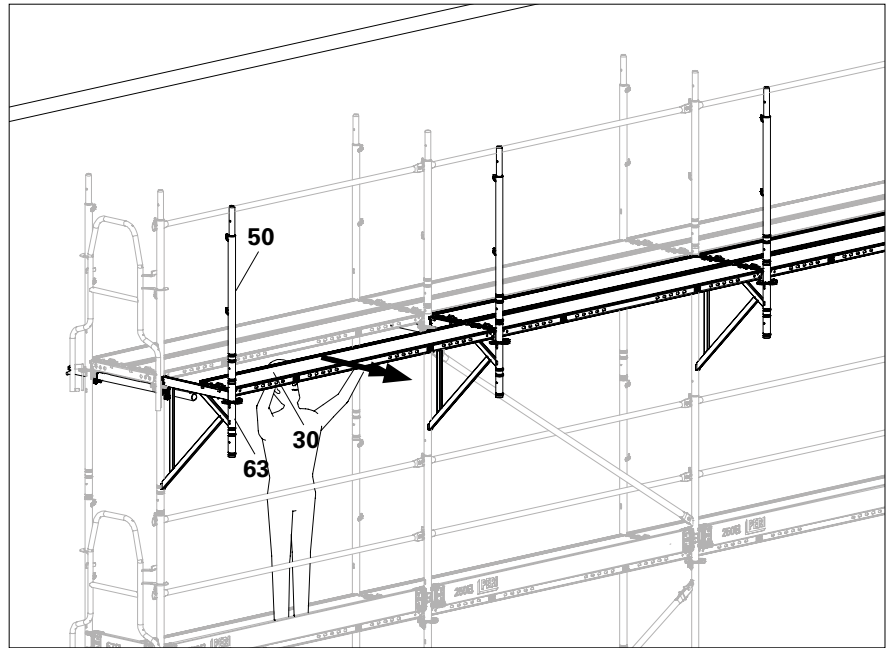

Fig. D1.13
1. Fit Console Bracket ECM (63) with Guardrail Post EVP (50). Secure the wedges. See "A6 System components: Console brackets" on page 40 ff.
2. Fit the Outer Steel Decks EDS (30) and push outwards.
3. Fit the Inner Steel Decks into the console bracket. (Fig. D1.13)